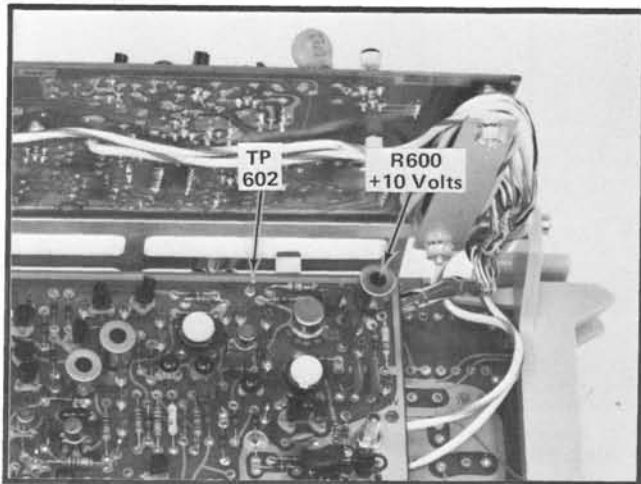

Fig. 5-3. +10 Volts adjustment and test point locations on Timing Board.
b. Connect the 1X probe tip to test point 602, on the Timing Board shown in Fig. 5-3, and set the -Input to Vc.
c. Adjust +10 Volts control R600 for 10.00 volts. See Fig. 5-3 for location.